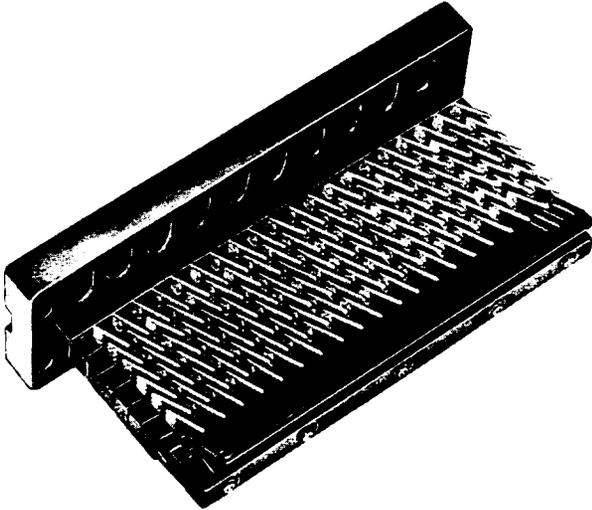

Figure 41—Terminal Strip
9.01 Terminal strips (Figure 41) are used for the termination of equipment cabling and cross-connections to outside plant and intraoffice equipment on various distributing frames.